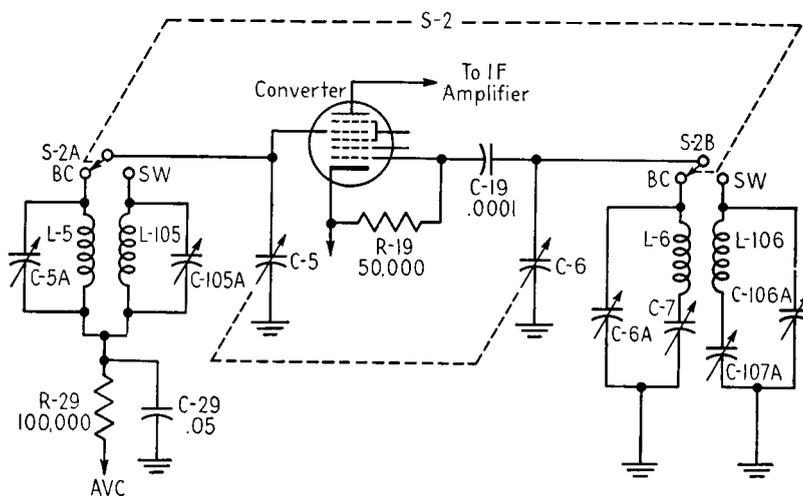

FIG. 15-3. Simplified switching circuits for a multiband receiver.
**Multiband receivers.** In multiband receivers, the inductances in the tunable circuits are switched, so that the receiver may operate over more than one band of frequencies. A simplified circuit indicating how this may be accomplished is shown in Fig. 15-3.
The circuit of Fig. 15-3 is simplified in that it makes no provision for shorting the unused coils (a usual procedure), and does not show the primary of the coil in the signal grid circuit or the feedback winding of the oscillator coils, either or both of which may also require switching.